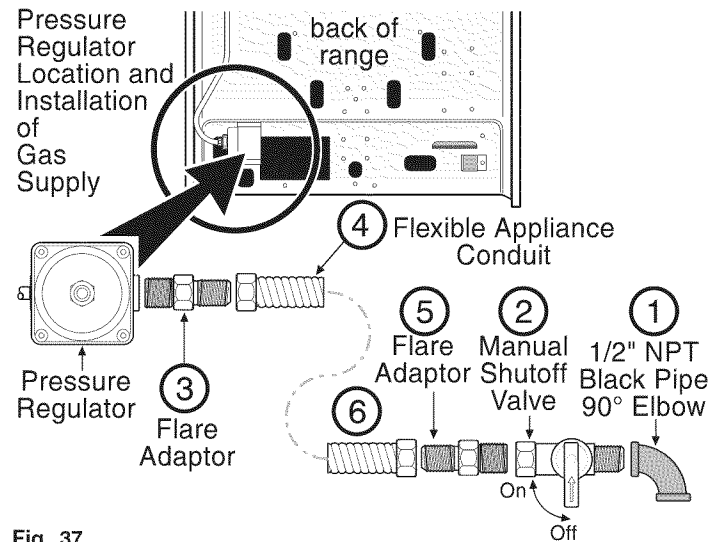

Fig. 37
This range is pre-set to operate on 4" natural gas manifold pressure. The Pressure Regulator is connected to the manifold and **MUST** be connected in series with the gas supply line (Refer to Fig. 37).
E Connect the range to the gas supply (refer to Fig. 37).
Before connecting gas supply to range, **review the suggested power source location drawings** (Figs. 1, 3 & 4). To prevent leaks apply pipe joint sealant on all male (outside) pipe threading. The Pressure Regulator can be found mounted to the lower left rear of range (See Fig 37). To install the gas supply:
- 6.) Attach flexible Appliance Conduit to Flare Adapter on Shut-Off Valve (Fig. 37).